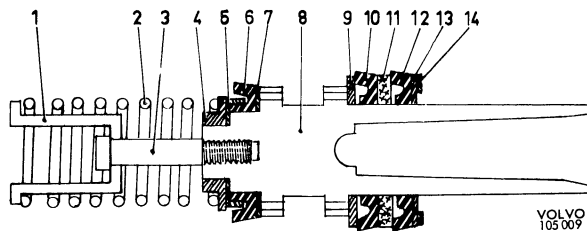
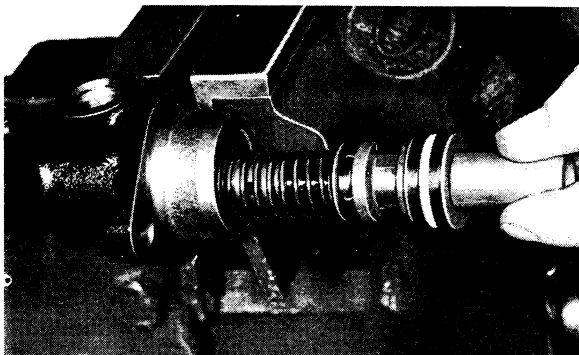

Fig. 5-51. Primary piston
Fig. 5-52. Fitting the primary piston
3. Fit the thin washer (7, Fig. 5-51), seal (6) and back-up ring (5) on the primary piston. Fig. 5-51 shows how the parts should be located. Fit the spring (2) with spring plate (4) and sleeve (1) on the primary piston. Compress the spring and tighten the screw (3) to the bottom.
4. Fit the washer (9), seal (10), plastic washer (11), seal (12) and washer (13) on the primary piston.
5. Dip piston and seals in brake fluid and observe care when fitting the parts in the cylinder, see Fig. 5-52. Fit the circlip (14, Fig. 5-51) in position. Fitting of the parts is made easier if the primary piston is held pressed in with the help of a 3 mm (1/8") drift through the overflow hole or with the help of a clamp.